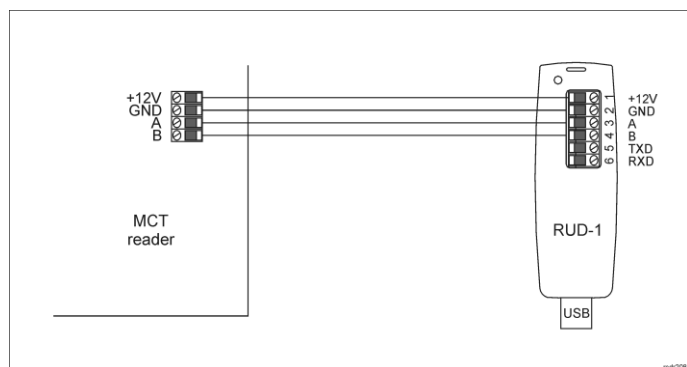

Fig. 1 Connection of MCT reader to RUD-1 interface
The configuration requires connection of a reader to computer with RUD-1 interface (fig. 1) and starting RogerVDM software.
1. Connect the reader to RUD-1 interface (fig. 1) and connect the RUD-1 to computer's USB port.
The update requires connection of reader to computer with RUD-1 interface (fig. 1) and starting RogerISP software. The latest firmware file is available at [www.roger.pl](http://www.roger.pl).